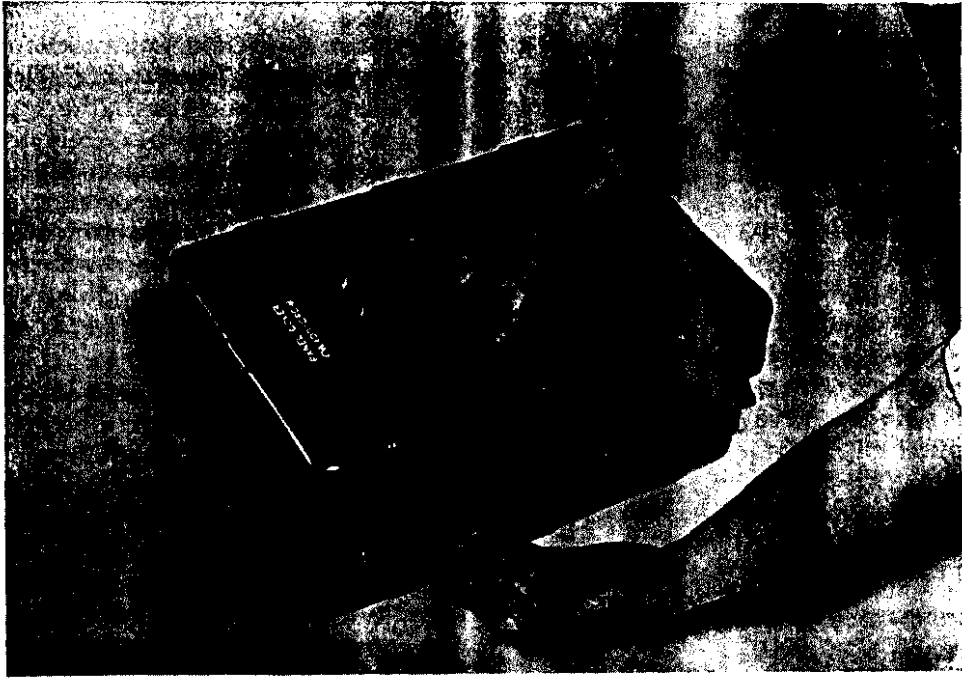

Figure 11. Removing front cover of receiver-transmitter RT-77/GRC-9-GY.
b. This Panel Cover CW-109/GRC-9-GY has a rubber seal around its edge to prevent water from entering the set. When the cover is installed on the metal case, the entire assembly will float. To remove the cover, pull up gently on the metal clamps arranged along the sides (fig. 11).
Caution. Be sure to release the clamps in the manner shown in figure 11. Injury may result if the thumb is struck by the clamp as it is released. Hold the clamp firmly and pull up gently.